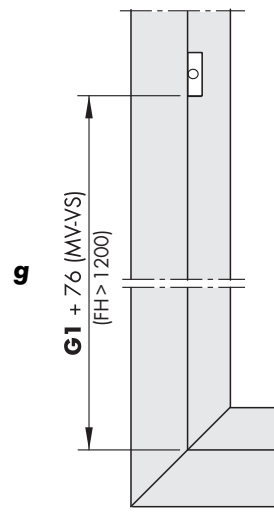

Figure 5
- g** At  $b > 1250$  mm, position striker according to the dimensions (Figure 5) and fix in place using grub screws (key dimension 2.5, torque 1.5 ± 0.25 Nm).